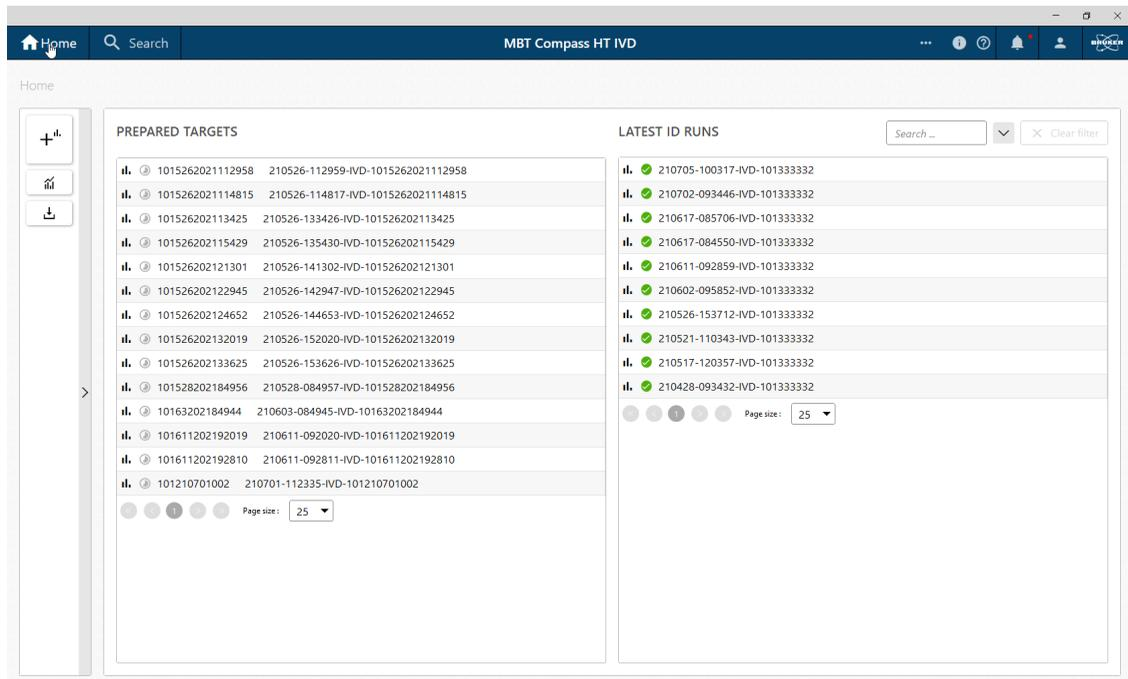

Figure 6-3 MBT Compass HT IVD Home view
3. After successful startup, the MBT Compass HT IVD Home view is displayed, see figure 6-3.